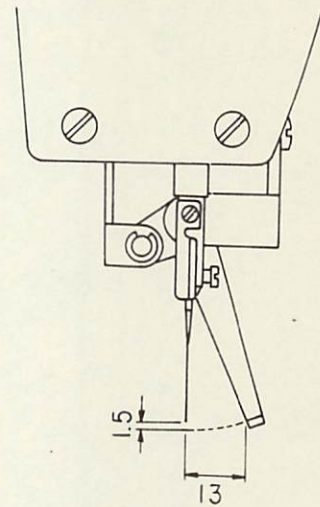

Fig. 6
- \* When the wiper passes by the needle point, the clearance should be 1.5mm(1/6"). (Fig.6)